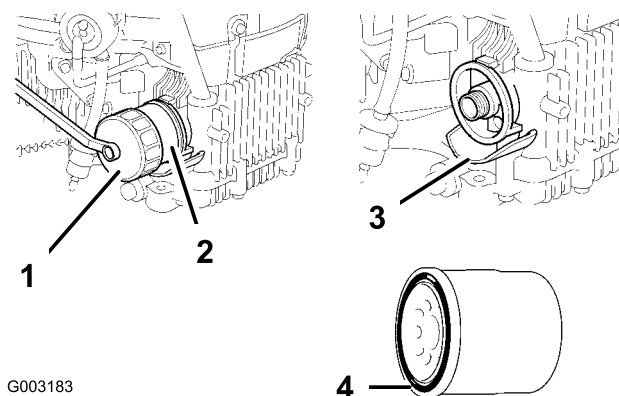

Figure 28
9. Change the oil filter, if necessary (Figure 28).
2. Remove the old filter using an oil filter wrench. Wipe the filter mounting base surface clean (Figure 28).
3. Apply a thin coat of clean oil to the rubber gasket on the replacement filter (Figure 28).
4. Install the replacement oil filter to the filter base by hand. Turn the oil filter clockwise until the rubber gasket contacts the filter base; then tighten the filter an additional 7/8 turn (Figure 28). Oil Filter torque: 15-17 lb (20-24 N·m)